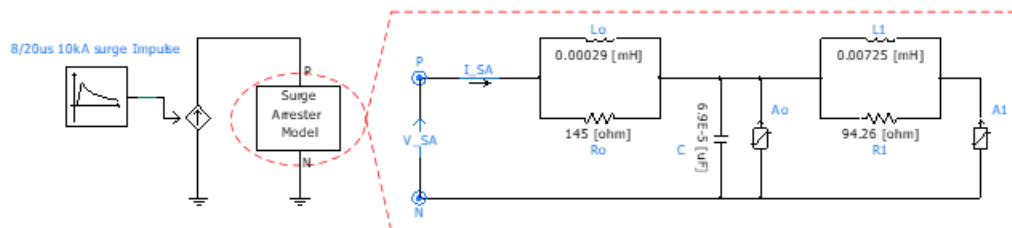

Figure 4: Frequency Dependent Surge Arrester
The test circuit and modeled surge arrester are depicted in Figure 4. The RLC elements of the frequency dependent surge arrester are initially calculated based on the equations (1) - (5). The value of L1 is further adjusted to improve the accuracy of the model.